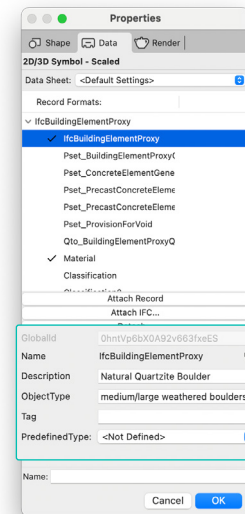

FIGURE 20E: IfcBuilding-ProxyElement pSet fields populated before saving
5. Click **OK** to assign the IFC data to the object. The Data Pane of the Object Info Palette (or Properties dialog) will now display the selected object’s IFC Entity type and the associated property sets (Fig. 20e).